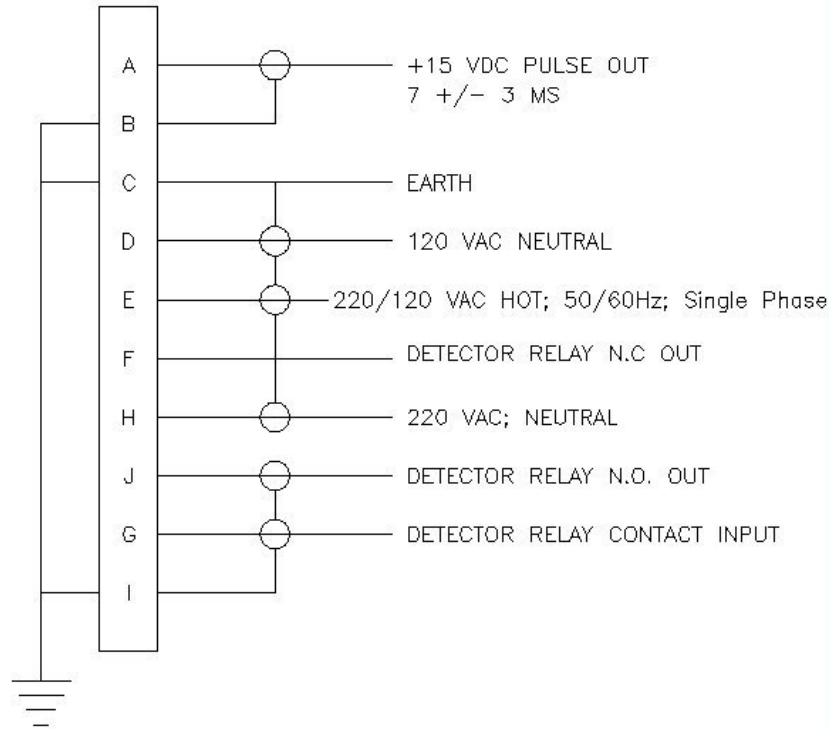

Figure 5, Electrical Connections
B. ELECTRICAL INSTALLATION (Figure 5)